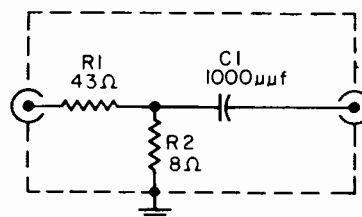

FIGURE 4. I-F INJECTION NETWORK
7. Inject signals from a properly terminated AM signal generator or sweep generator through the network in Figure 4 to the I-F injection jack\*. General Electric test equipment, if used, need not be terminated as the termination is in the attenuator.